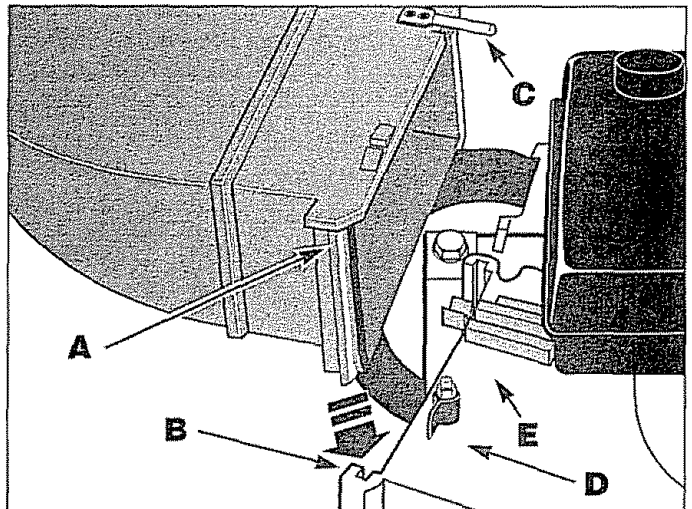

Figure 9: Install blower deflector.
Position the tabs on the sides of the blower deflector (A in Figure 9) into the slots in the discharge opening (B) and slide the blower deflector down all the way into the slots. Turn retaining knob (D) until the tab on the knob drops into the slot on the blower deflector. (Reverse this procedure when removing the blower deflector.)
**NOTE:** The rod (C) on the blower deflector is part of the machine's safety interlock system. Make sure that the rod fits securely in the slot in the safety interlock switch (E).